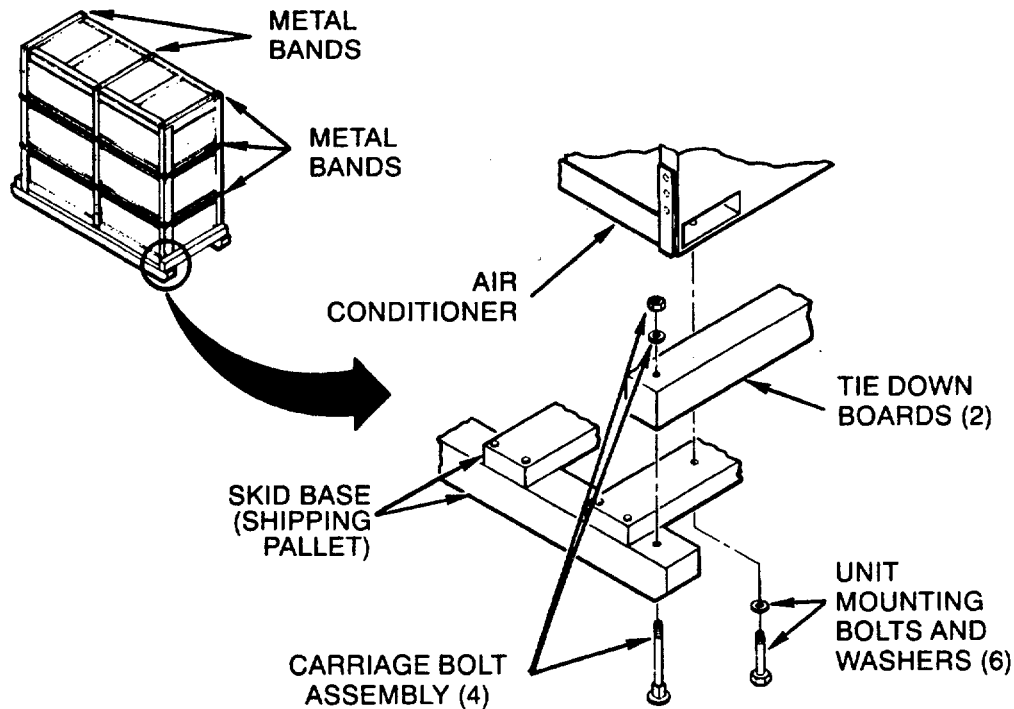

Figure 4-2. Typical Crated Air Conditioner
**4-6. UNLOADING.** The air conditioner is packaged in a container designed for shipment and handling with the cabinet in an upright position. The base of the container is constructed as a shipping pallet with provisions for the insertion of the tongs of a fork on material handling equipment (see Figure 4-2).